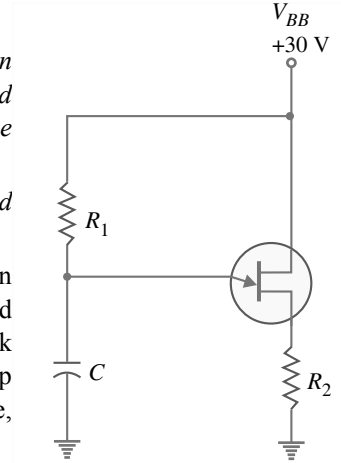

Fig. 19.35
**Example 19.14.** Determine the value of  $R_1$  in the relaxation oscillator of Fig. 19.35 that will ensure proper turn-on and turn-off of the UJT. The characteristic of the UJT shows the following values :
**Solution.** In the relaxation oscillator of Fig. 19.35, certain conditions must be met for the UJT to reliably turn-on and turn-off. To ensure turn-on,  $R_1$  must not limit  $I_E$  at the peak point to less than  $I_P$ . This will be so if the voltage drop across  $R_1$  at the peak point is greater than  $I_P R_1$ . Therefore, the condition for turn-on is